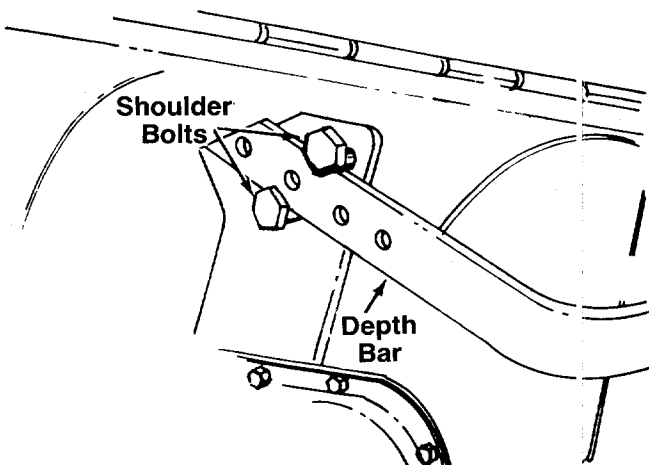

FIGURE 3.
1. Raise the tine shield hinge flap assembly. Insert the depth bar assembly (AD) between the two shoulder bolts and up through the tine shield assembly as shown in figure 3.
For clarity, figure 3 was taken with tiller raised on end. It is not necessary to raise the tiller.